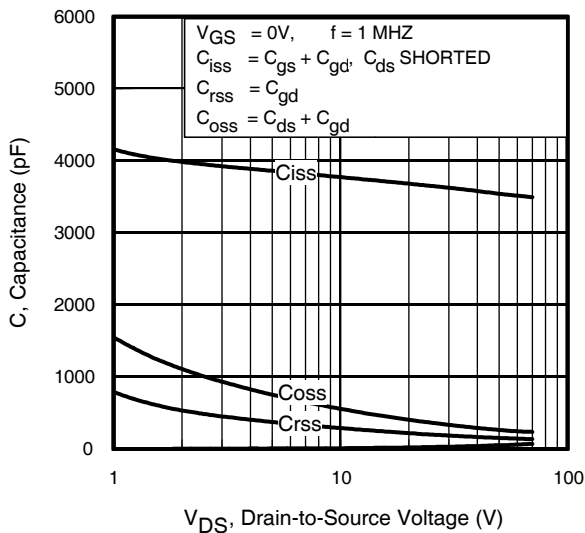

Fig 5. Typical Capacitance vs. Drain-to-Source Voltage
| $C_{oss \text{ eff. (TR)}}$ | Effective Output Capacitance (Time Related)   | —    | 380  | —    |       | $V_{GS} = 0V, V_{DS} = 0V \text{ to } 80V$ ⑤, See Fig. 5  |